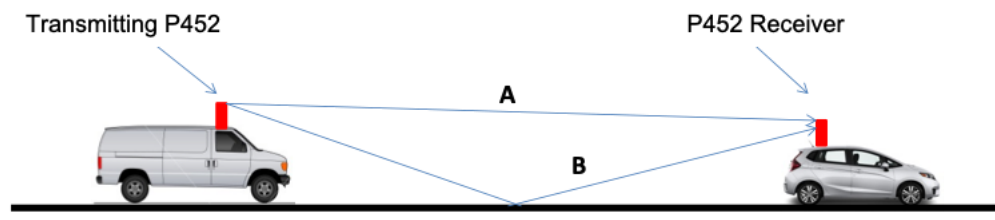
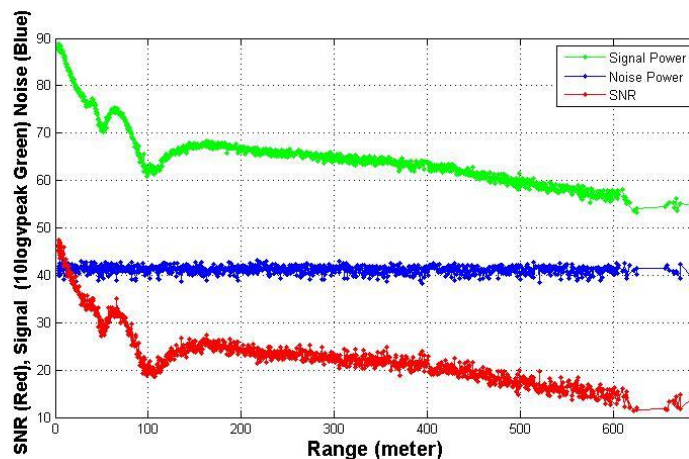

Fig. 6-2: Transmitted signal A arrives at the P452 receiver and is destructively interfered by signal B
Fig. 6-3: Data collected from configuration shown in Figure 6-2
- Variations due to Fresnel cancellation effects. Fresnel cancellation occurs when the direct path signal is partially cancelled by a reflection from the ground. **Figure 6-2** illustrates this issue.
In this example, the transmitted signal B arrives at the P452 receiver $\frac{1}{2}$ wavelength after signal A arrives. As a result, signal A will experience destructive interference by signal B. The received signal will not only have a lower SNR but it will also change the characteristic shape of the received signal. This unexpected change will increase the standard deviation and change the bias. These changes have been quantified. The data shown in **Figure 2-4** was collected using the configuration shown in **Figure 6-2**. (For convenience, **Figure 2-4** is repeated below as **Figure 6-3**.) You will notice that there are two points in **Figure 6-3** at which the Fresnel cancellation is apparent, 60 and 100 meters. At these locations, the standard deviation (precision) increased to 1.5 and 3.0 cm and the bias decreased by 1.5 and 3.5 cm, respectively.